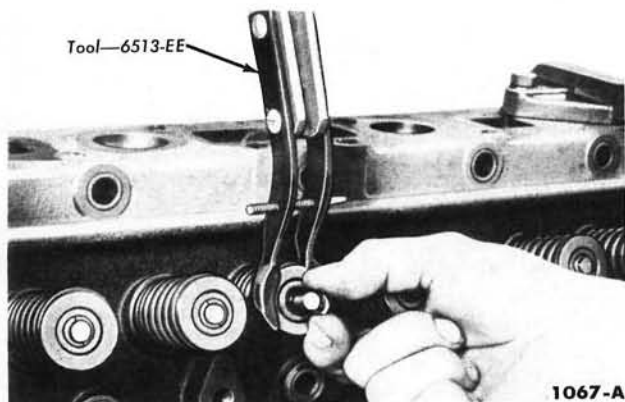

FIG. 17—Valve Stem Lock Removal or Installation
2. Compress the valve spring (Fig. 17), then remove the valve retainer locks and release the spring. Remove the sleeve, spring retainer, spring, stem seal, and valve. Discard all valve stem seals. Identify all valve parts.